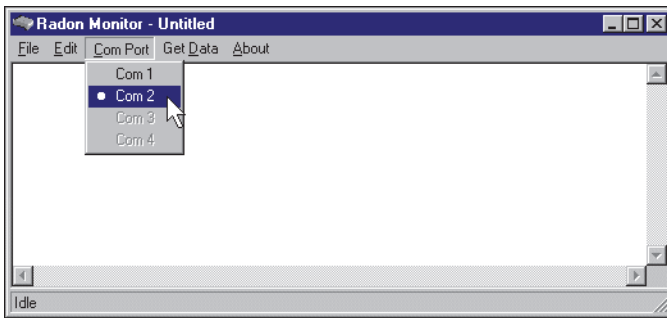

Figure 2-5. Select the Desired Com Port
- 5 Select **Com Port** on computer to which RS-232 cable is connected. A bullet appears next to selected port (Figure 2-5).